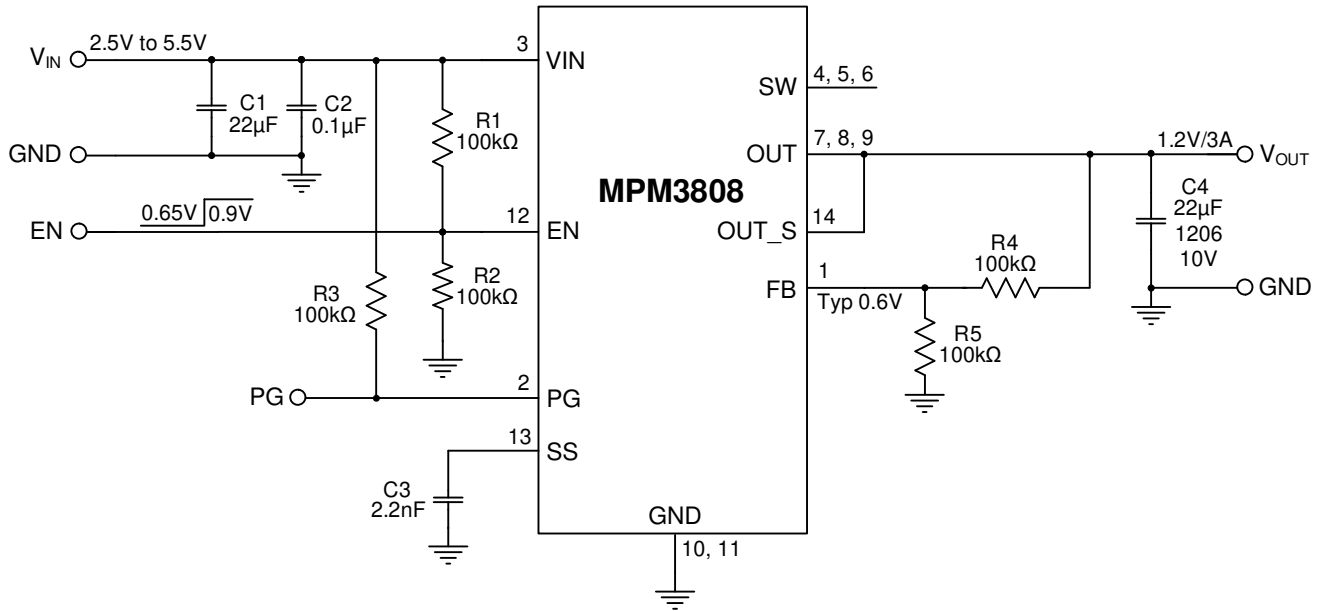

Figure 11: Typical Application (Adjustable Output,  $V_{OUT} = 1.2V$ )
- 9) The recommended PCB layout is based on Figure 11 on page 25.